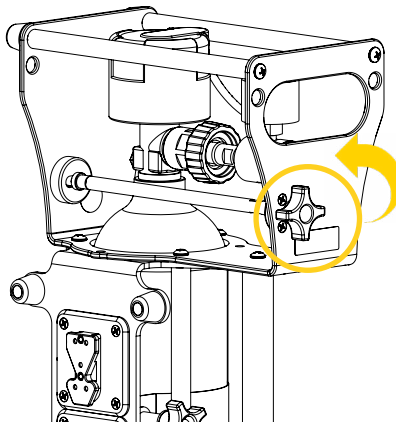

Figure 11: Loosening the retainer
3. Rotate the knob of the retainer counterclockwise to loosen the gas cylinder (Figure 11).